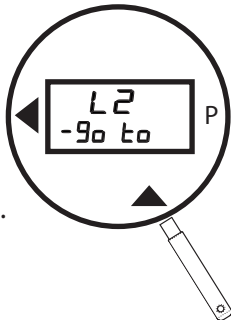

Figure 21.
- Pass the wand over the **▲** once. The selection will advance to **L2 -Go to** (Figure 21).